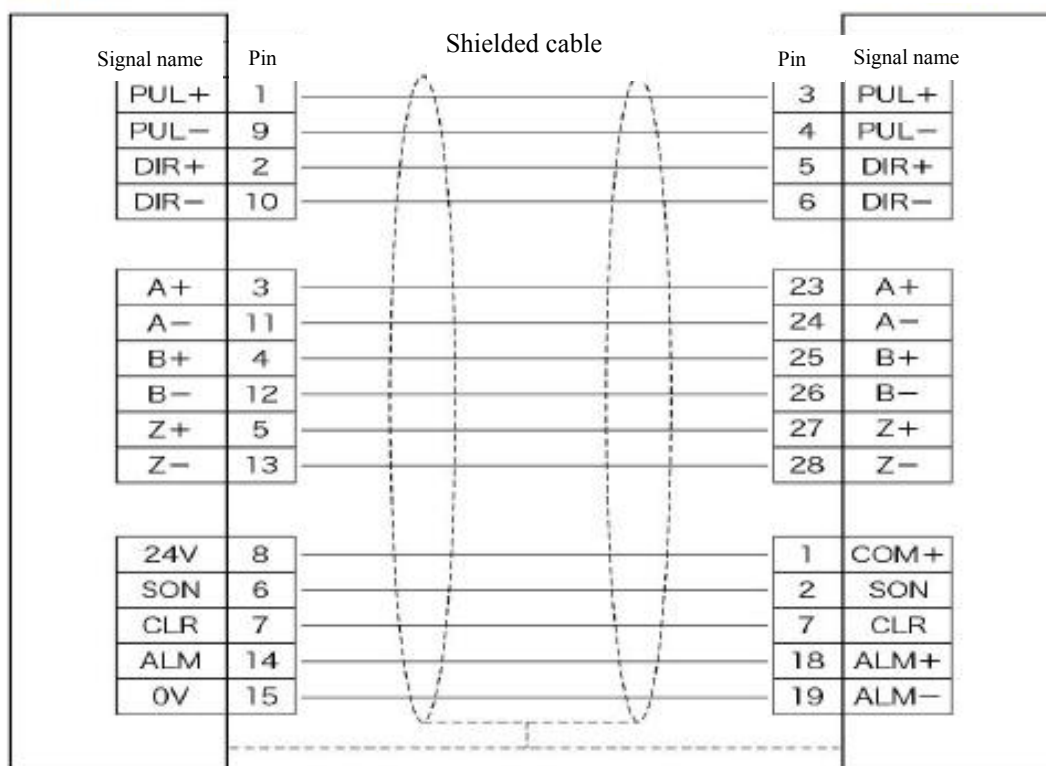

Figure 2.3
- ① Focusing module servo wiring, as shown in Figure 2.3 below.